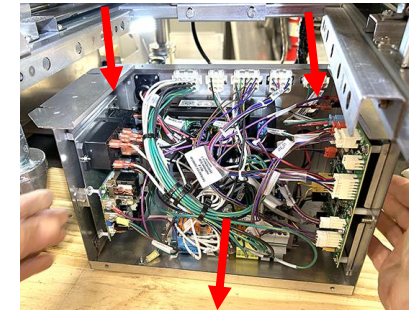

Figure 13
16. Gently slide the box to the right and lower the SCB box to the floor (see Figure 13).